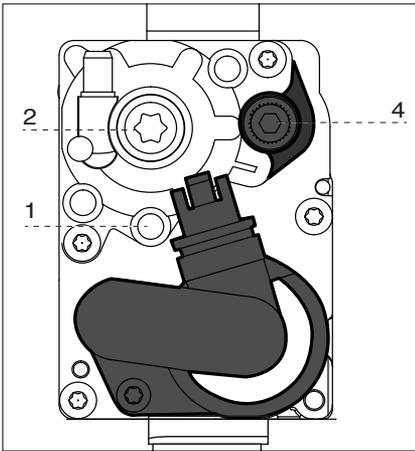

Figure 10 - Gas valve
The boiler gas valve is equipped with a Line Pressure Test Port; see Figure 10. Use the following procedure to measure the gas line pressure to the boiler to ensure it falls within the range given in Table 2:
- Loosen screw **1 (Torx 10 - Line Pressure Test Port)**. This port is directly connected to the gas line feeding the boiler. See Figure 10.